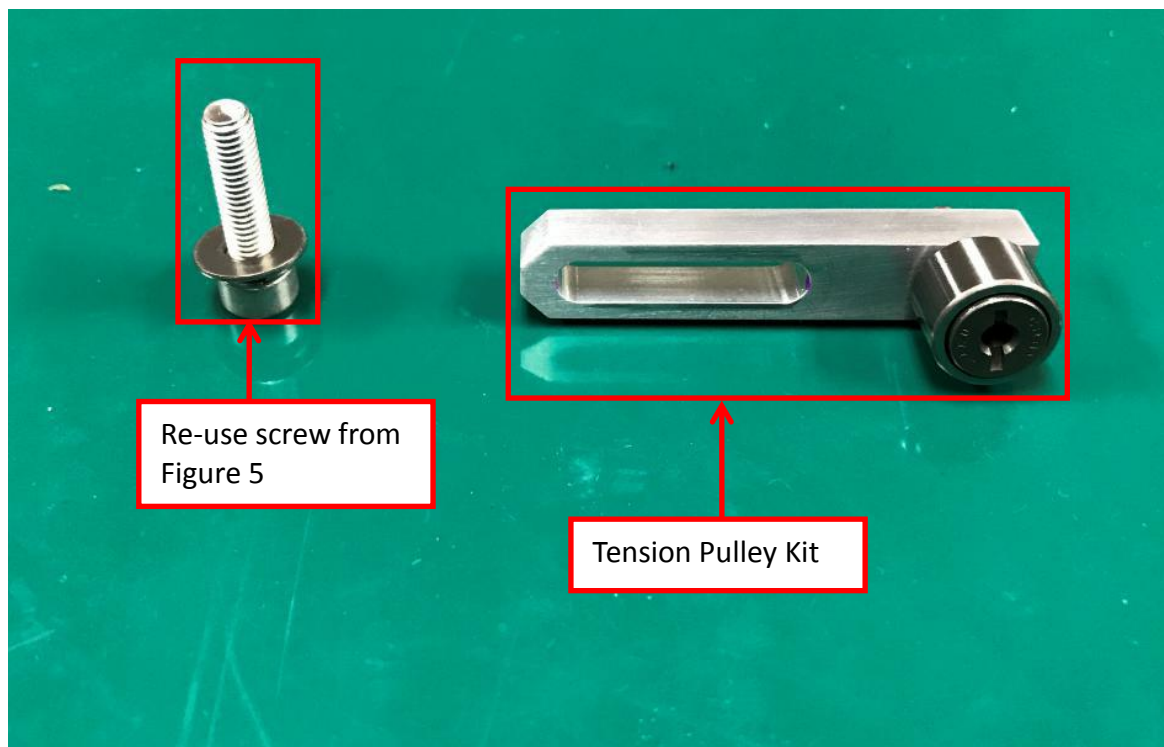

Figure 11 Tension Pulley Kit
3. Install Tension Pulley Kit as shown in Figure 11 & 12